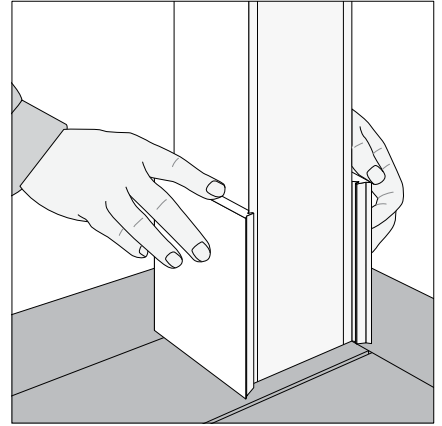

Fig. 5a
- Repeat on opposite sides, ensuring all mitered corners are tight and flush (**Fig. 5a**).